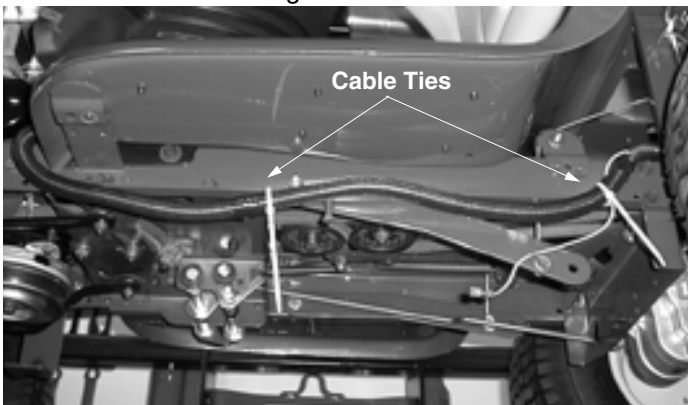

Figure 12
9. Beneath left side of fender, route the rear of the harness between the lift cable and the frame leaving the yellow wire hanging free. Attach the harness loosely to the frame using the two remaining cable ties. Route the yellow wire to the reverse safety switch and attach it to the switch. See Figure 12 .